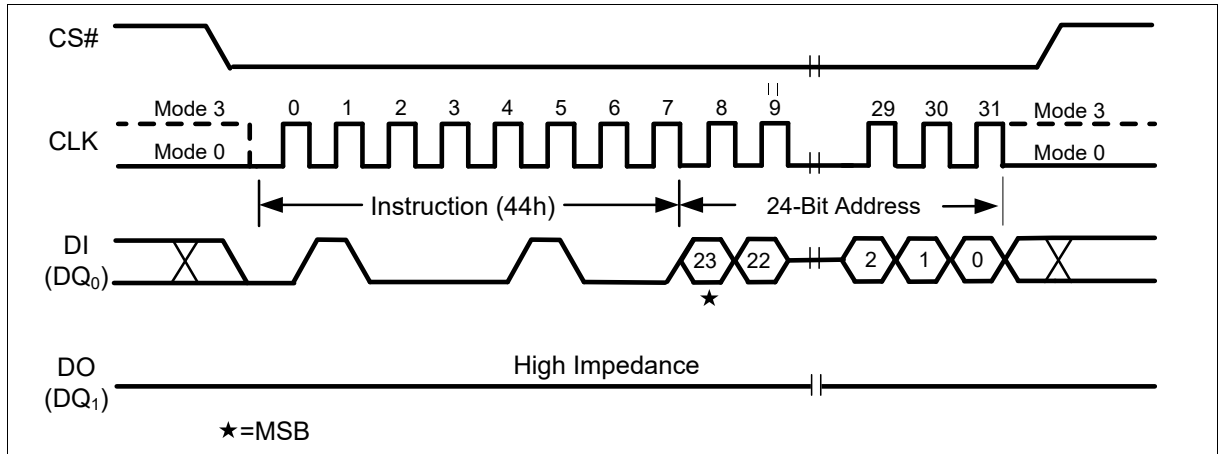

Figure 58 Erase Security Sector Instruction (SPI Mode only)
The Erase Security Sector instruction sequence is shown in Figure 58. The CS# pin must be driven high after the eighth bit of the last byte has been latched. If this is not done the instruction will not be executed. After CS# is driven high, the self-timed Erase Security Sector operation will commence for a time duration of  $t_{SE}$  (See “12.6 AC Electrical Characteristics”). While the Erase Security Sector cycle is in progress, the Read Status Register instruction may still be accessed for checking the status of the WIP bit. The WIP bit is a 1 during the erase cycle and becomes a 0 when the cycle is finished and the device is ready to accept other instructions again. After the Erase Security Sector cycle has finished the Write Enable Latch (WEL) bit in the Status Register is cleared to 0. The Security Sector Lock Bit (LB) in the Status Register-2 can be used to OTP protect the Security Sectors. Once the LB bit is set to 1, the Security Sector will be permanently locked, Erase Security Sector instruction will be ignored.